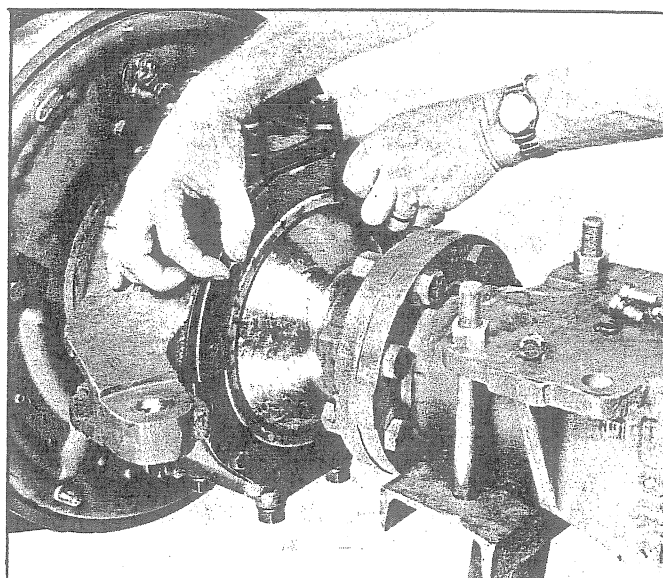

Fig. 38 - Securing Seals into Place
- e. Secure seals and retainers in place with split ring halves as shown in Fig. 38. Tighten bolts to 23-25 ft.-lbs. torque.